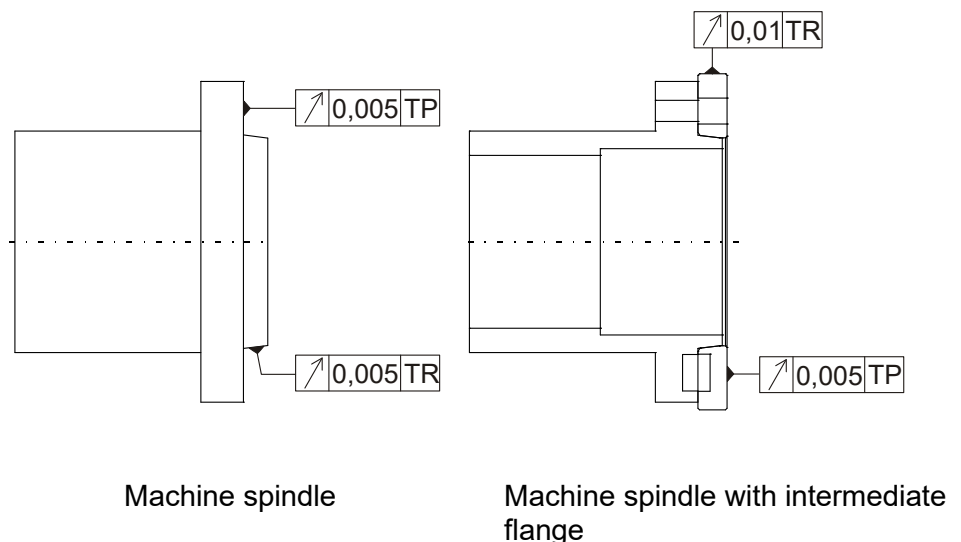

Fig. 3-2: Checking the true-running
- Step 2** Bring the draw pipe (2) in the most forward position and screw the adaptor (3) onto the draw pipe after the thread has preventively been cleaned with copper paste to avoid rusting or galling
- Step 3** Mount the intermediate flange (4) on the spindle (in case the chuck is not directly screwed onto the spindle) and check the true-running according to Fig. 3-2.
- Step 4** Remove the sealing bush (1) from the chuck so that you can unscrew the slotted nut (5) later on (see step 7).